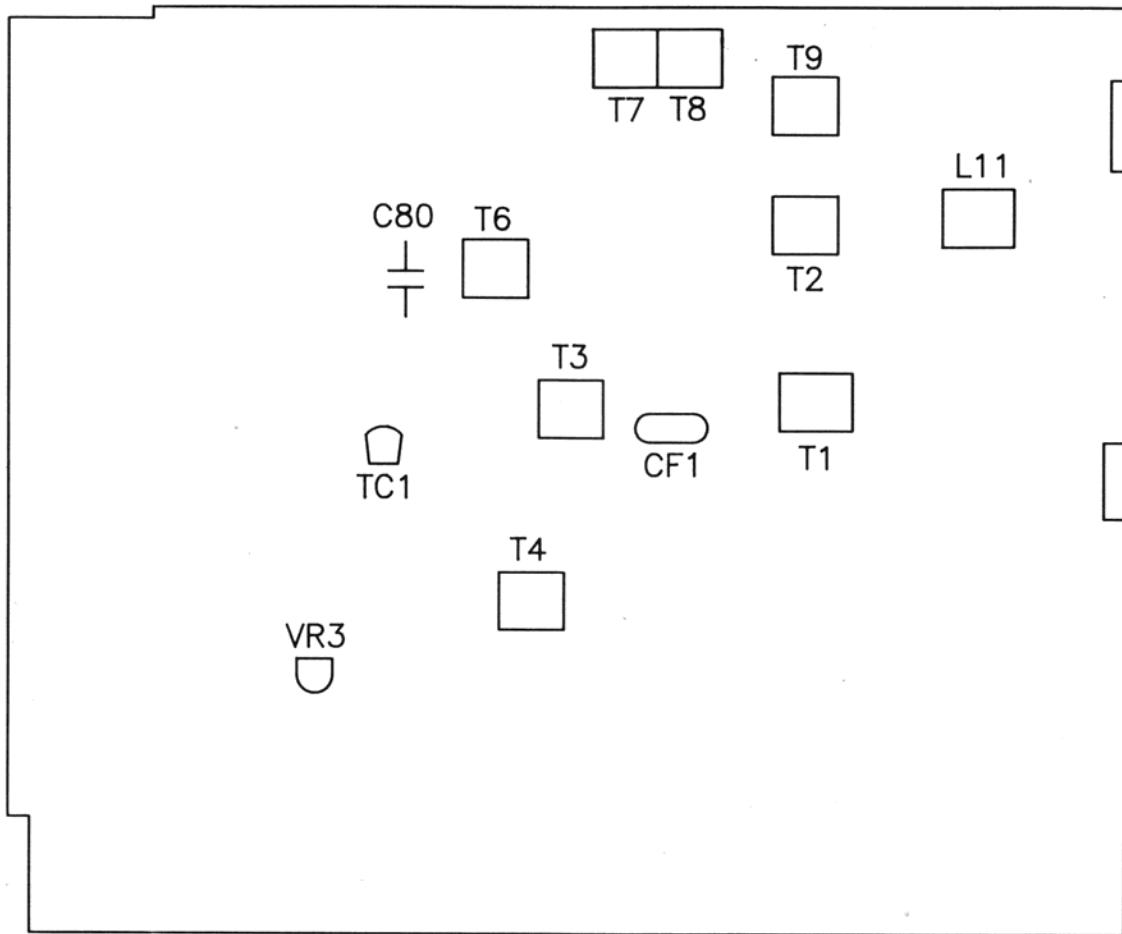

Figure 1
**Note:** Figure 1 provides test point and all alignment location information.
**Note:** Figure 1 shows test point and all alignment location information.